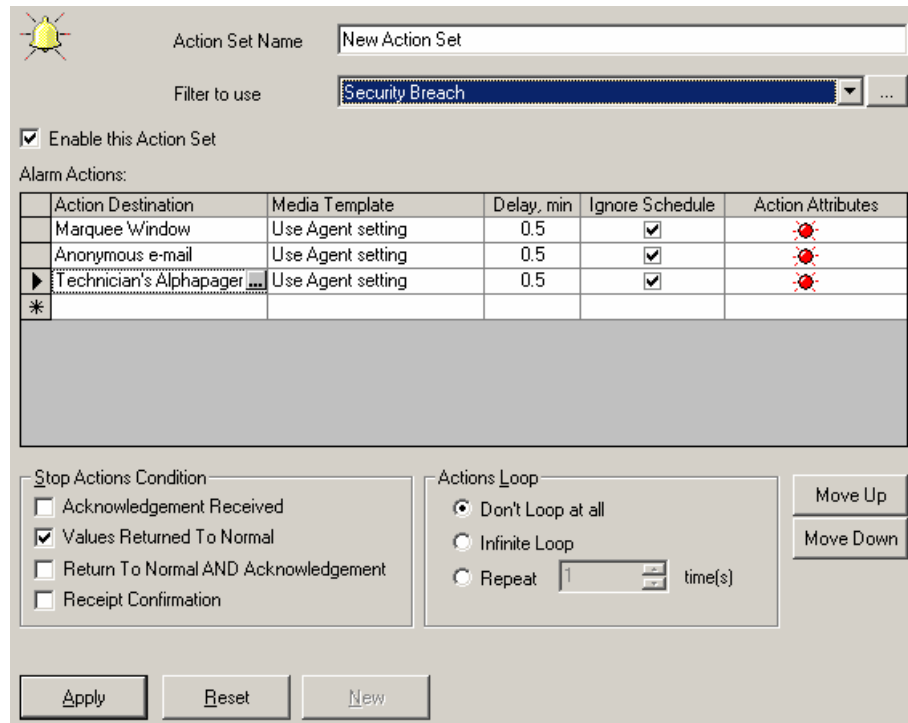

Figure 2.28. Setting the Properties for the New Alarm Action Set
2. Enter a name for this action set, as shown in **Figure 2.28**.